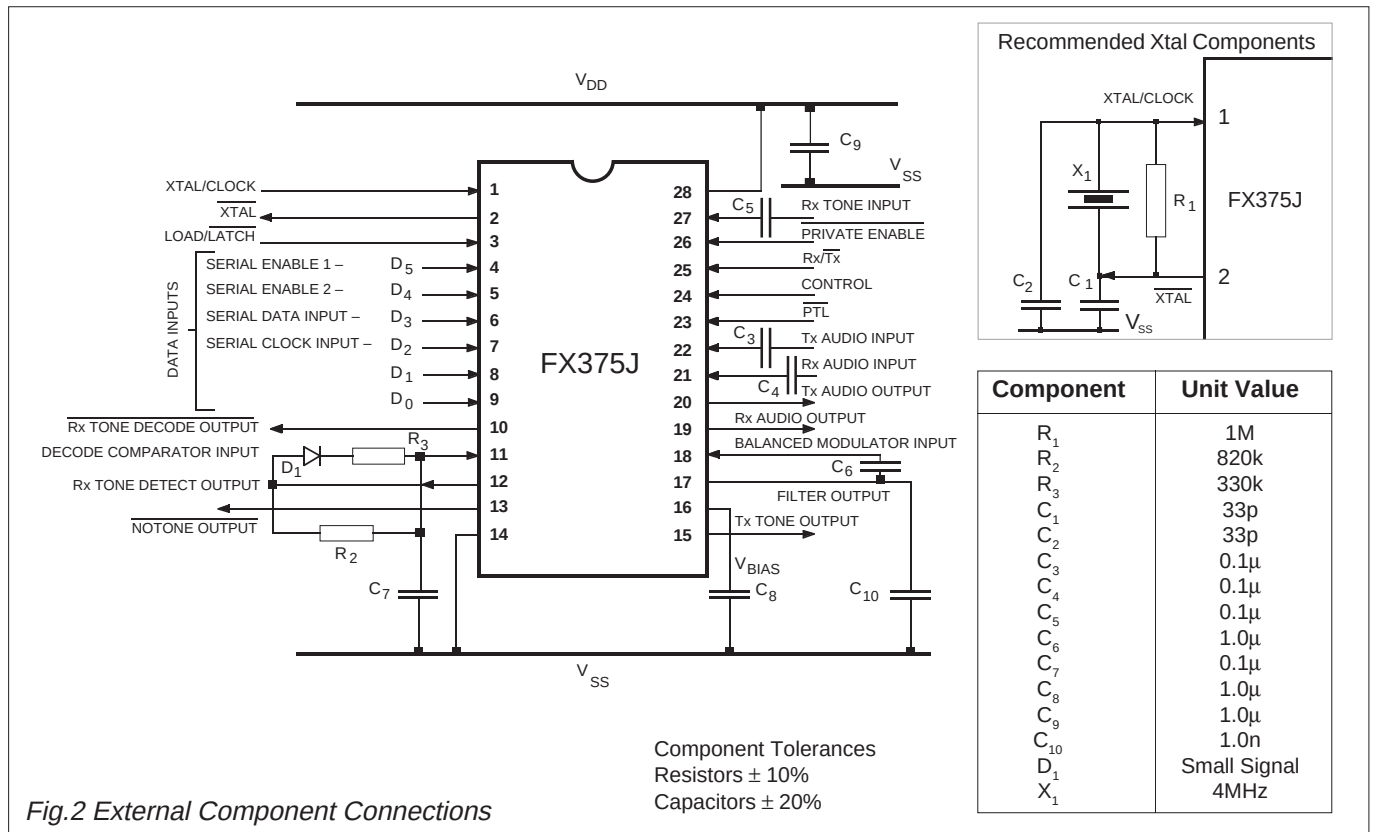

Fig.2 External Component Connections
1. The pre- and de-emphasis circuits remain in the Transmit path during Clear and Private operation. 2. Power remains applied to the CTCSS tone decoder at all times. 3. Carrier Frequency = 3333Hz during Private operation (Tx or Rx). 4. During Clear operation the carrier frequency is turned off to reduce spurious emissions. 5. Under Rx-Notone conditions the Notone output can be used to operate squelch circuitry. 6. The functions in this table are applicable when the device is connected as recommended in Figure 2.